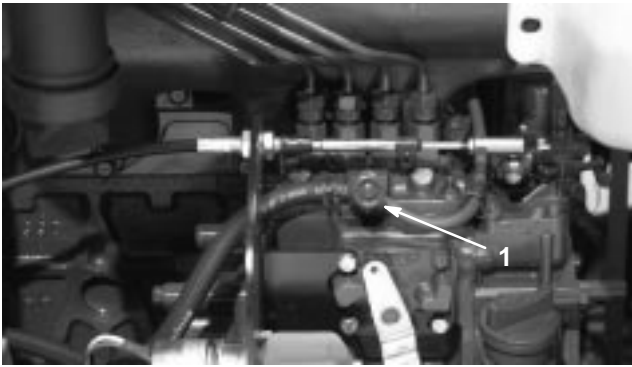

Figure 27
3. Open the air bleed screw on the fuel injection pump (Fig. 27).